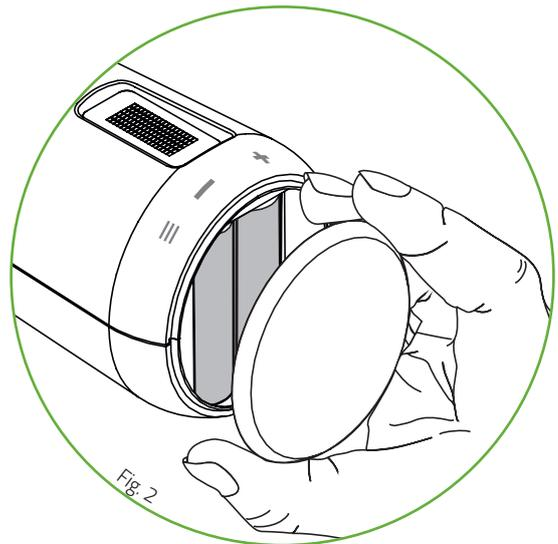

Fig. 2
3. Place the battery cover back on the GENIUS LCD100 (Fig. 2) by pressing until it clicks.